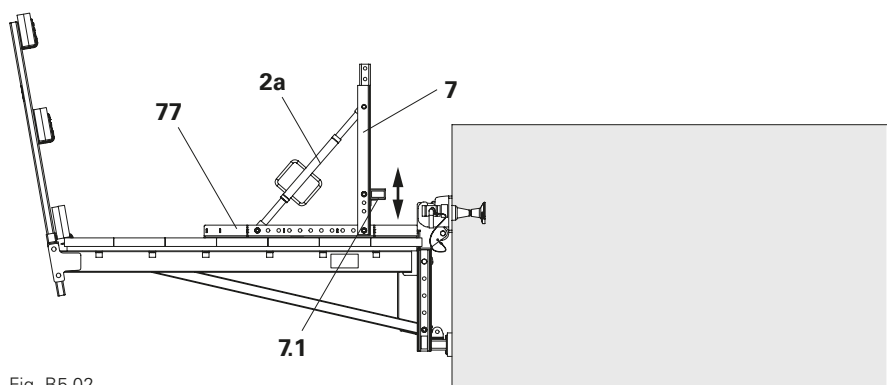

Fig. B5.02
1. Fasten Formwork Post VGK 70 (7) to Formwork Support VGK 60 (77) with bolts
2. Fix Kicker Brace AV 82 (2a) to the rearmost hole in Formwork Support VGK 60 (77) and to the top hole in Formwork Post VGK 70 (7) with bolts in each case.
3. Insert beam support (7.1) in the corresponding position. (Fig. B5.02)